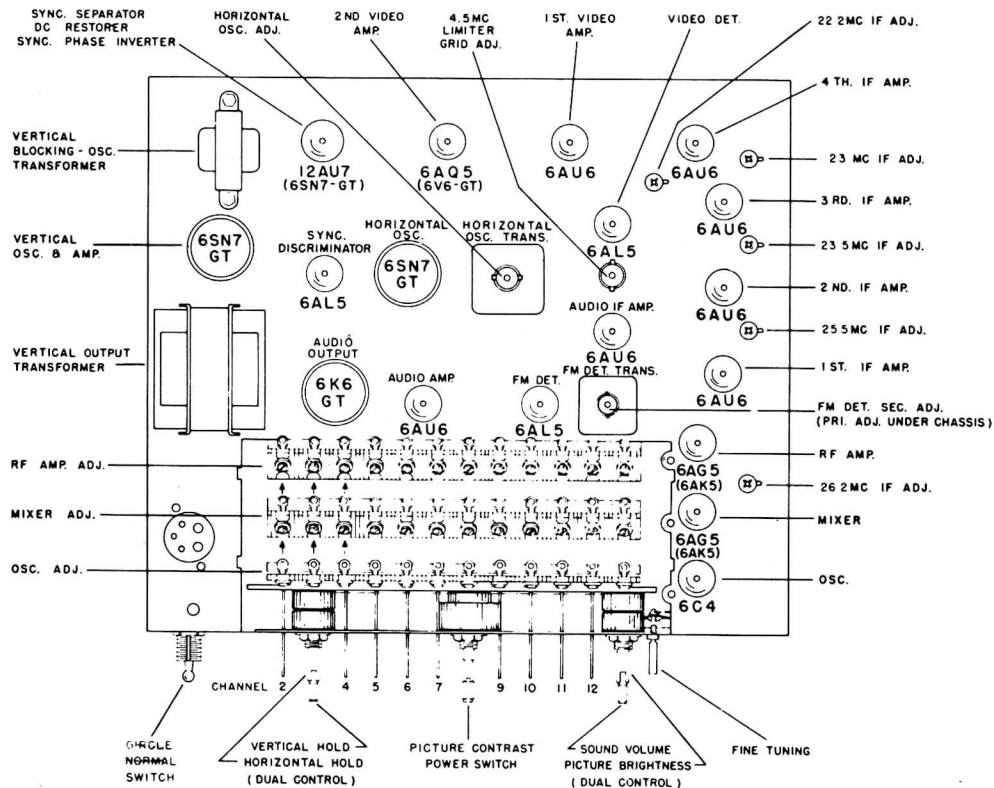

Fig. 11. Top view, alignment points.
1. Advance the HORIZONTAL DRIVE control (clockwise) as far as possible without causing crowding of the right hand side of the test pattern or producing picture instability. Insufficient horizontal drive will cause the raster to fall short of filling the mask horizontally. Should the HORIZONTAL HOLD control fail to hold the test pattern in the normal manner, set the HORIZONTAL HOLD control in the middle of its range and adjust the HORIZONTAL OSC. ADJ. screw for horizontal sync. (See Fig. 11 for location).